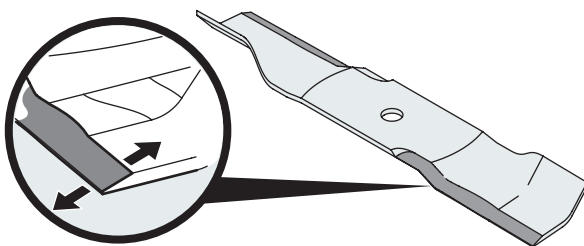

Figure 43
- To properly sharpen the cutting blades, remove equal amounts of metal from both ends of the blades along the cutting edges, parallel to the trailing edge, at a 25°-30° angle. Always grind each cutting blade edge equally to maintain proper blade balance. See Figure 43.